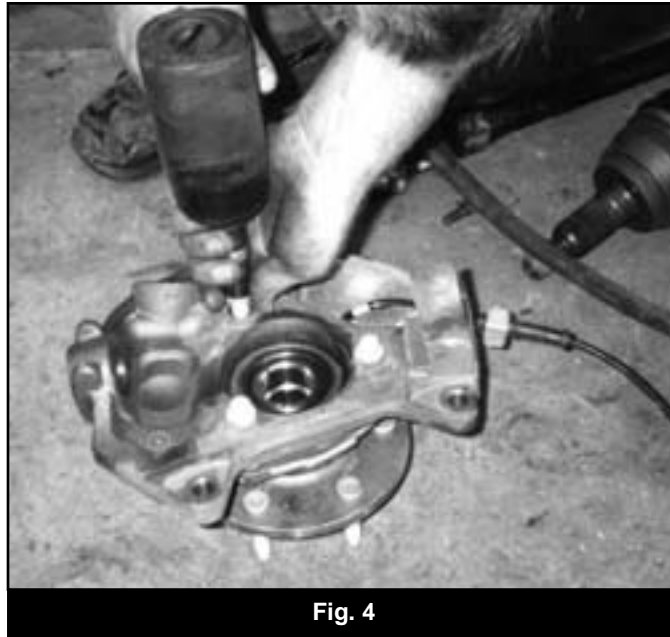

Fig. 4
18. Remove the three bolts that mount the hub assembly to the steering knuckle (Fig. 4). Discard the steering knuckle and retain the ball joint nuts and bearing assembly and hardware.